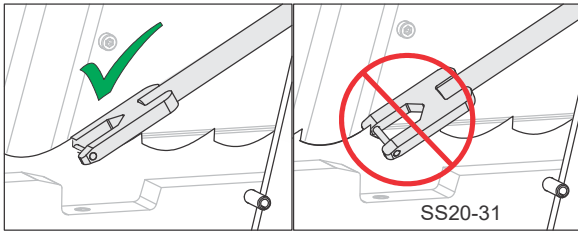

FIG. 3-10
- Place the push pawl pin into the gullet of the tooth with the handle against the stop pin. The handle and pin should rest solidly, but not pushing the tooth. Make sure that the fork holding the pin remains perpendicular to the blade. \(See fig. 3-10.\)